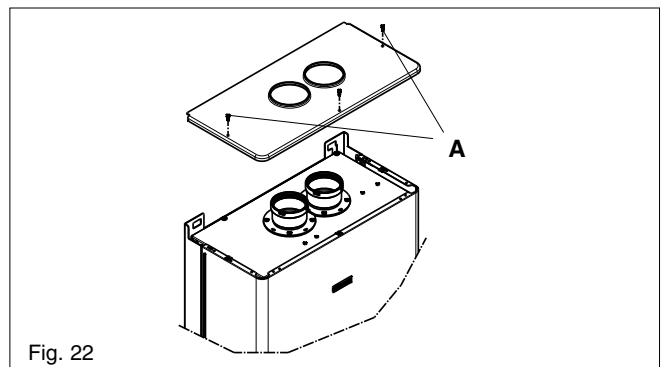

Fig. 22
- locate and unscrew the 3-screws of the upper cover **A** (fig. 22)